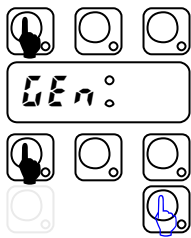

Fig. 3.1
- Enter into the USER SETTING mode by pressing and hold down ON/OFF and CYCLE_1 keys for at least **five seconds** the display shows **UEn** (Fig.3.1);